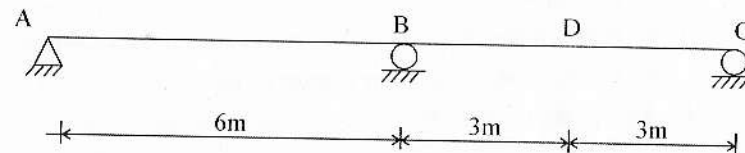

Fig. 1.
- Draw the influence line diagrams for reactions at supports A, B, C and for bending moment at support B for the beam as shown in Fig. 1. There is an internal hinge at D.